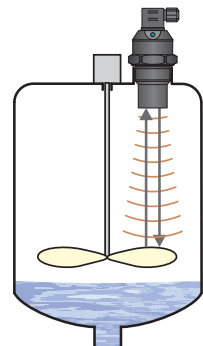

Fig. 13: False reflection from mixer blades
- The device should not be installed in places with the risk of **false reflections** of the ultrasonic signal from the mixer's blades (Fig. 13).